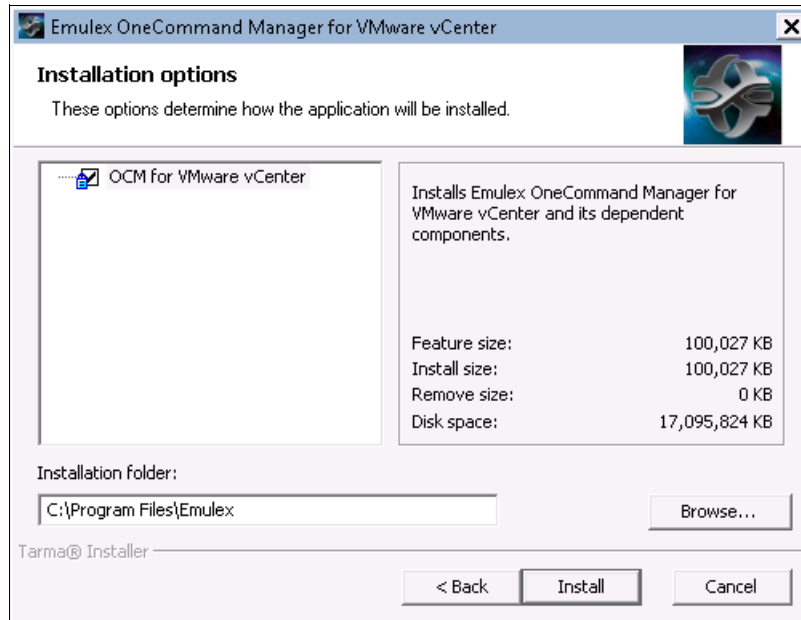

Figure 7-39 Selecting the installation path
5. In the Installation options panel (Figure 7-39), select the installation path, and then click **Install**.